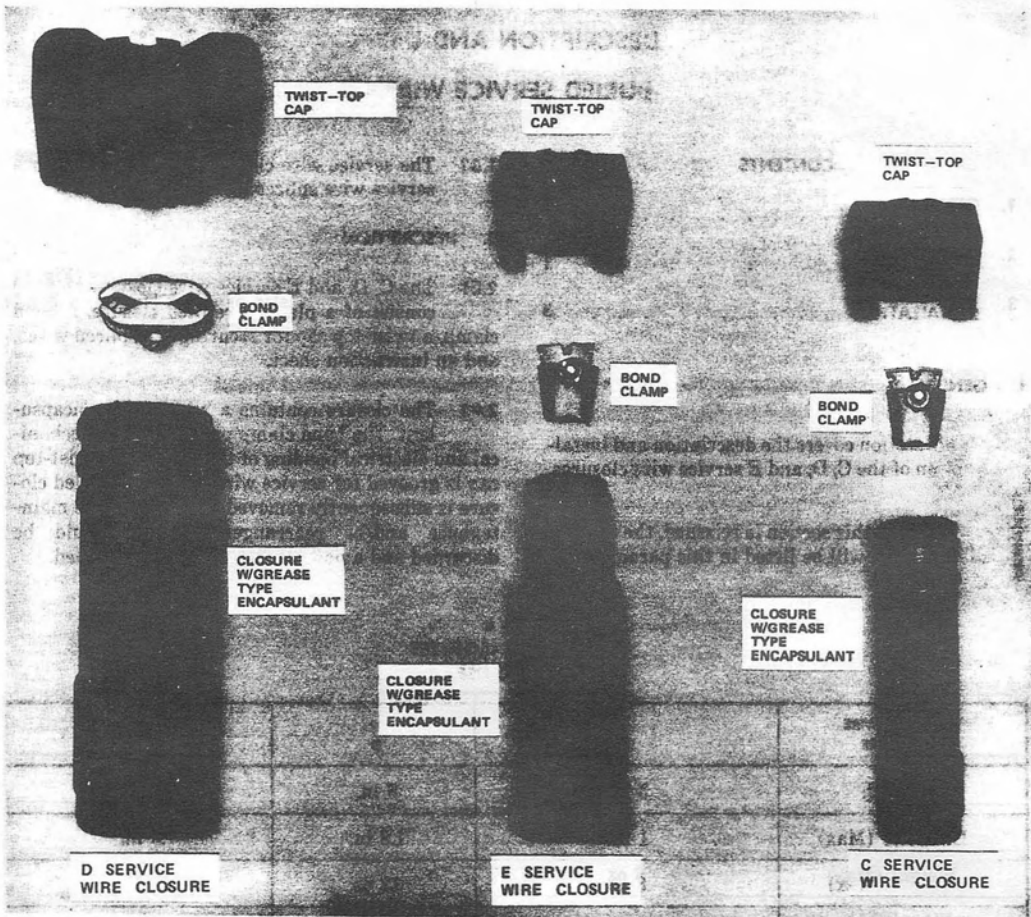

Fig. 1—C, D, and E Service Wire Closures
2.01 The C, D, and E service wire closures (Fig. 1) consist of a plastic prefilled closure, a bond clamp, a twist-top cap for securing the spliced wires, and an instruction sheet.